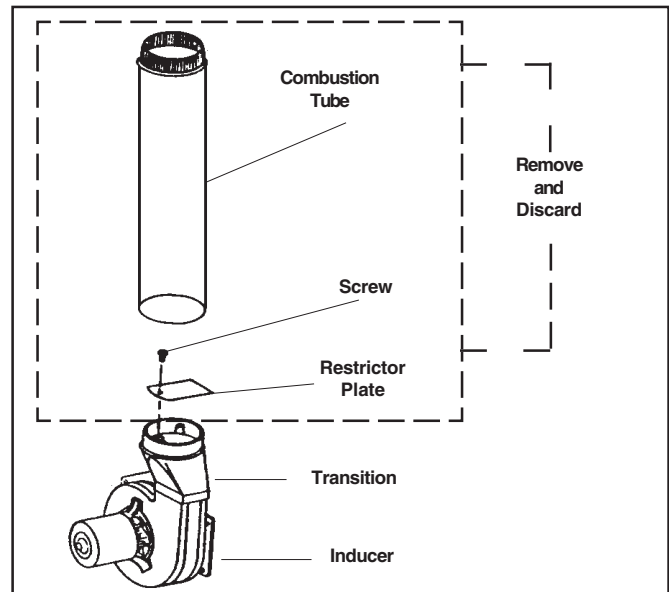

Figure 17. *RK Horizontal Vent Modification
3. To gain access to the restrictor plate, remove and discard the combustion tube from the transition assembly. **Insure the seal between inducer and transition assembly is not broken.** (See Figure 17.)
4. Remove and discard the restrictor plate and screw from the transition assembly. (See Figure 17.)